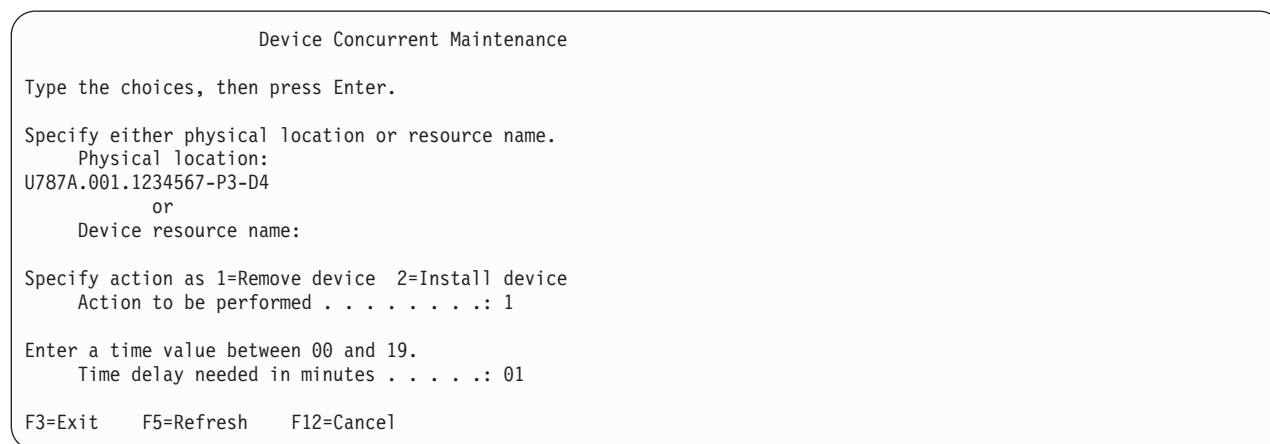

Figure 84. Example Device Concurrent Maintenance display
11. If the physical location does not appear in the Device Concurrent Maintenance display, type the physical location where you will be replacing the disk drive as shown in the preceding example, Figure 84 on page 96.